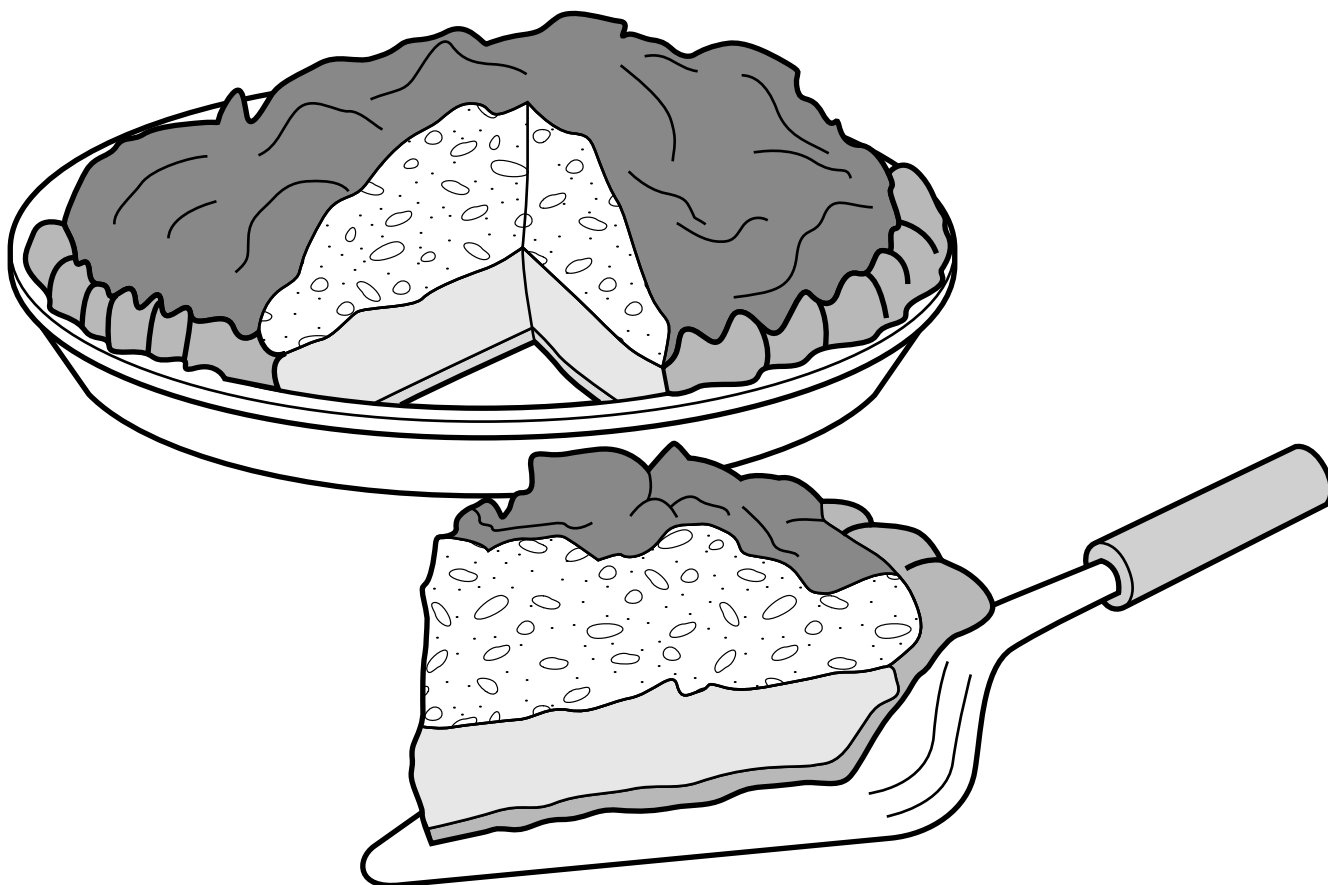

Fig. 4
Fig. 4 shows a lemon meringue pie and pie slice.
(a) Give FOUR design requirements for a lemon meringue pie shown in Fig. 4. Justify each requirement.
- (b) Describe TWO examples where ergonomics has influenced the design of the pie slice as shown in Fig. 4.
- (ii) Describe, in detail, how the pastry case for the lemon meringue pie shown in Fig. 4 would be manufactured as a batch of 20. Include details of all ingredients and the scientific principles underlying the process. Use a flowchart and/or annotated diagrams to support your answer.**